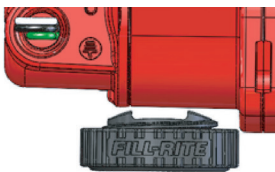

Figure 5
- D. Slide the assembled TankDefender under pump junction box, and align the curve top of the jack post with the junction box as shown in Figure 5 below in the direction of